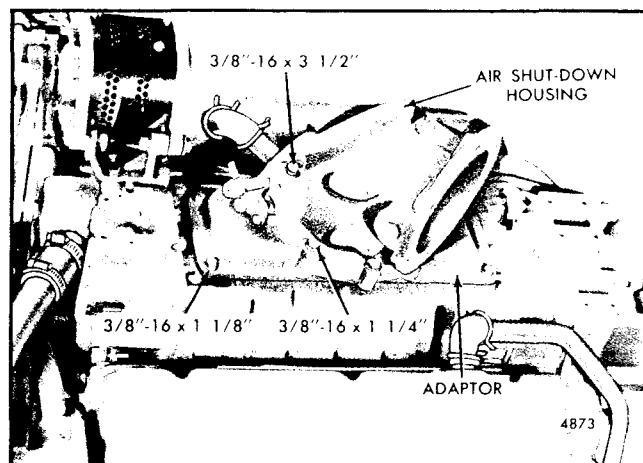

Fig. 5 - Location of Air Shut-Down Housing and Adaptor Mounting Bolts
2. Refer to Fig. 5 and install the air shut-down housing adaptor on the screen and gasket assembly. Install the six bolts and lock washers and tighten them to 16-20 lb-ft torque.